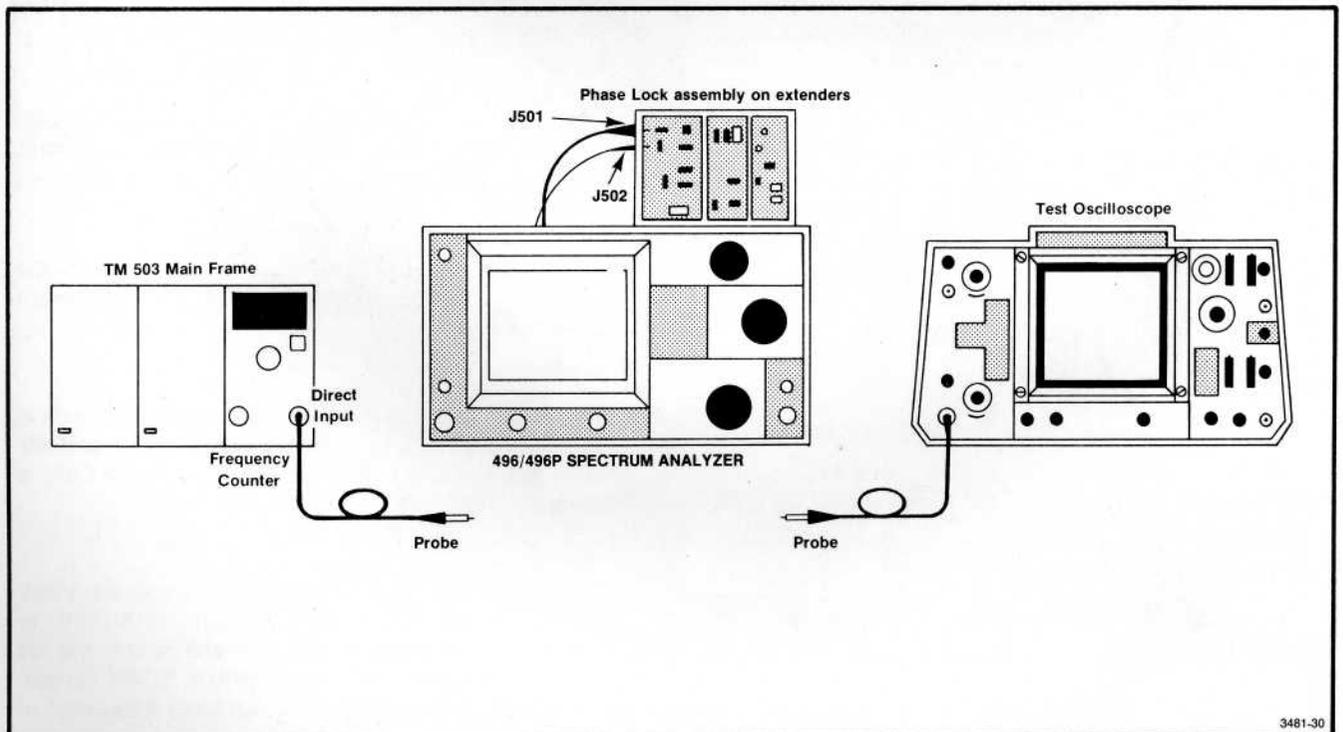

Fig. 4-11. Test equipment setup for calibrating the Phaselock assembly.
1. Test equipment setup is shown in Fig. 4-11. Remove the Phaselock module and the two cover plates so all circuit test points and adjustments are accessible. Plug the assembly on extender boards and into the instrument. Use extender cables and adapters to reconnect signal cables to their respective connector (cable with yellow band to J501, cable with black band to J502, and cable between J500 and J511 on Phaselock Control board).